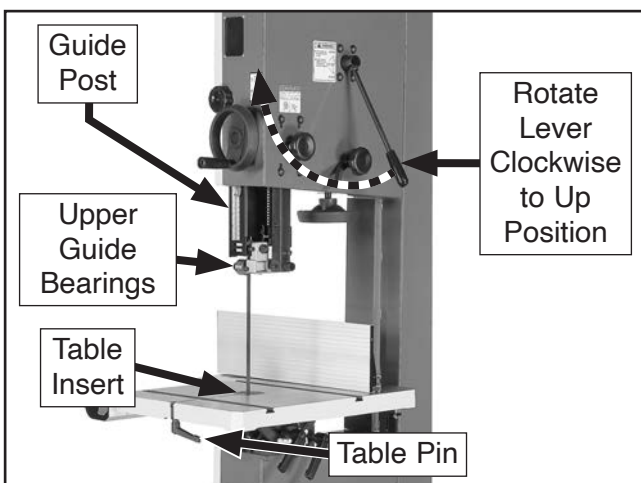

Figure 73. Blade changing controls.
2. Release blade tension by rotating blade tension quick-release lever (see **Figure 73**) clockwise to up position.
3. Remove table insert and table pin. Adjust upper and lower guide bearings as far away as possible from blade (see **Figure 73**).